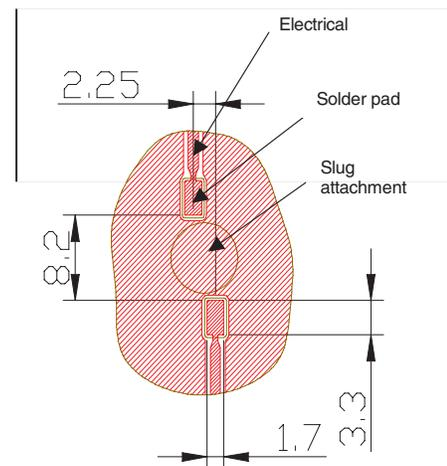

Figure 4. Maximizing Heat-Spreading Copper Layer Connected to Slug.
- Maximize the copper area beneath the slug. The copper layer will spread the heat over a larger area. This reduces the thermal resistance from slug to board (see figure 4).